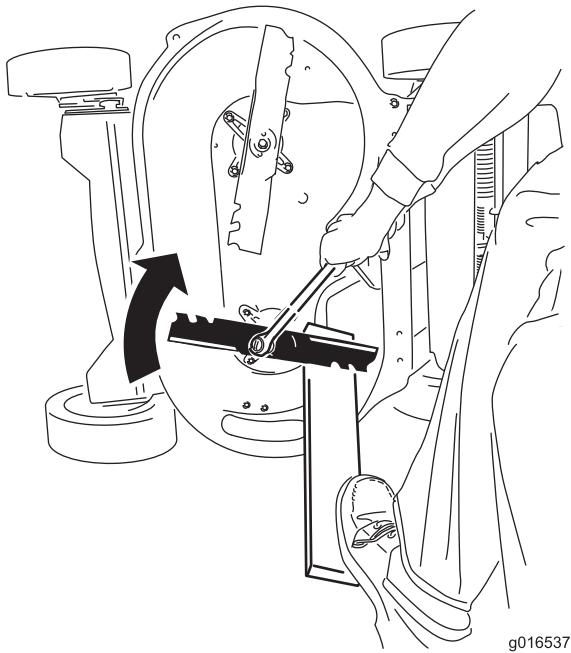

Figure 34
- Steady each blade with a board and turn the blade bolt clockwise with a torque wrench as shown in Figure 34; torque each blade bolt to 82 N·m (60 ft-lb).